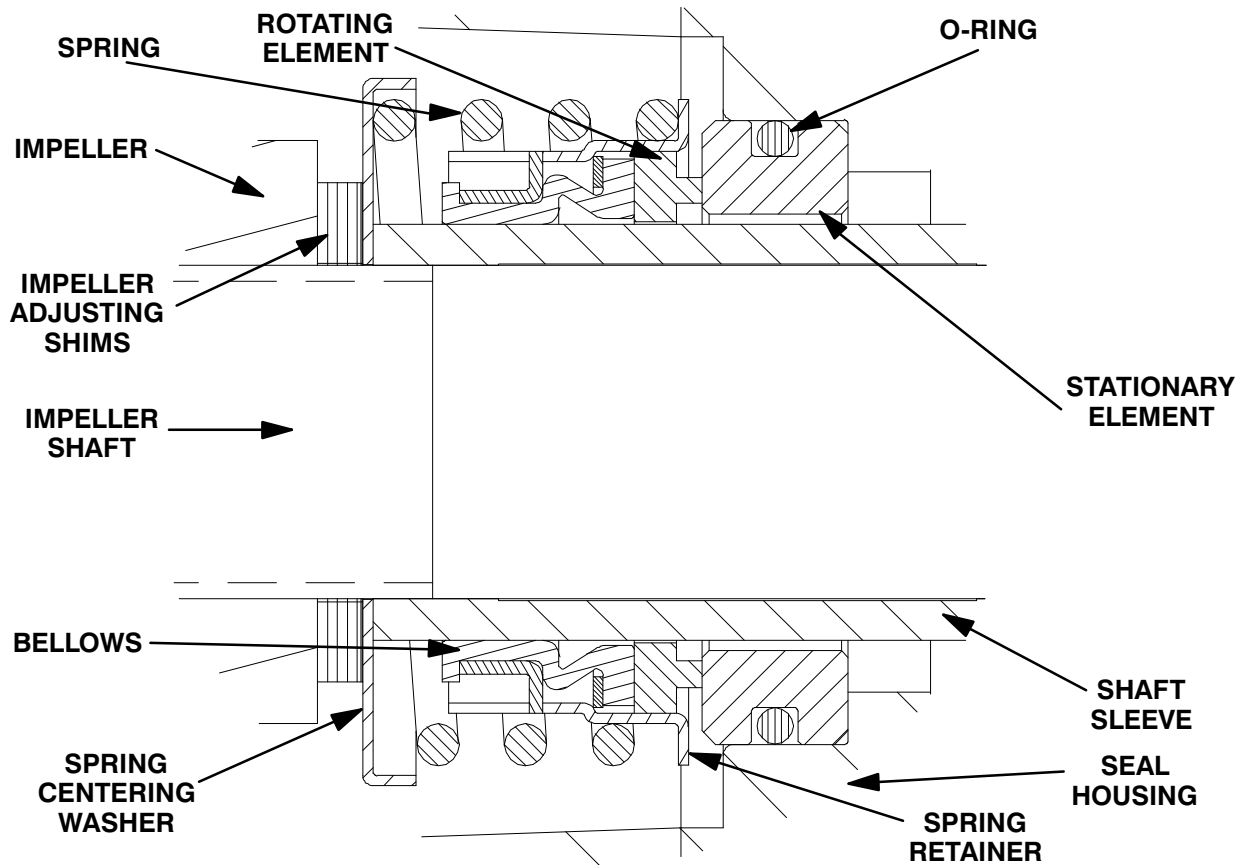

Figure 3. Seal Assembly
To ease installation of the seal, lubricate the shaft sleeve (52) with water or a very **small** amount of oil, and apply a drop of light lubricating oil on the finished faces. Assemble the seal as follows, (see Figure 3).